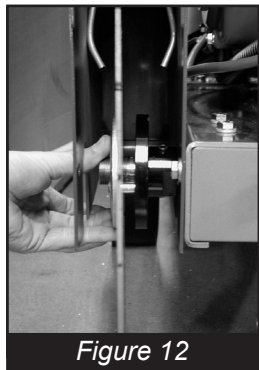

Figure 12
- Carefully place the blade on the arbor shaft and turn until the drive pin lines up with the hole in the backing plate. (Figure 12) Do not use a blade without a drive pin.